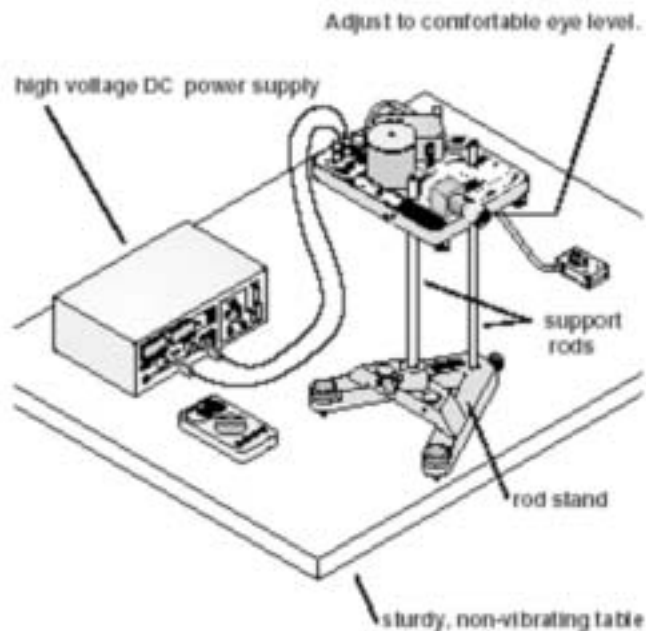

Figure 6. Equipment setup
2. Make sure the apparatus is level. First, adjust the height so you can sit erect while looking through the viewing scope (figure 6). Then, referring to the attached bubble level, adjust the leveling feet of the platform.